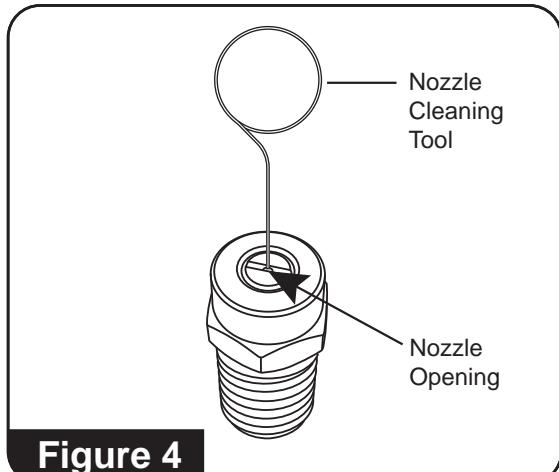

Figure 4
4. Using the nozzle cleaning tool, free any foreign material clogging or restricting nozzle openings. (**See Figure 4**)